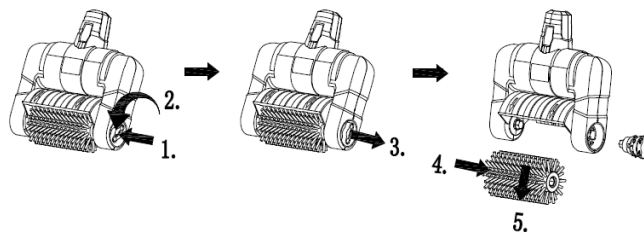

Fig.3
- A. Disassemble roller plastic brush(12), Refer to Fig.3